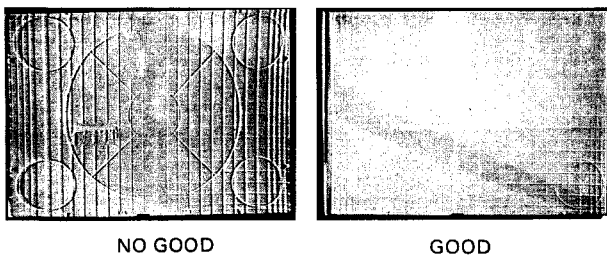

Fig. 5-4-23
- Adjust VR15 (R H-CENTERING), VR13 (R H-SIZE), VR14 (R H-LIN1) and L8 (R H-LIN2) repeatedly so that the R vertical lines in the center portion of registration chart coincide with the G vertical lines. (Fig. 5-4-23).
- o Adjust VR9 (B H-CENTERING), VR7 (B H-SIZE), VR8 (B H-LIN1) and L5 (B H-LIN2) repeatedly so that the B vertical lines in the center portion of registration chart coincide with the G vertical lines. (Fig. 5-4-23)